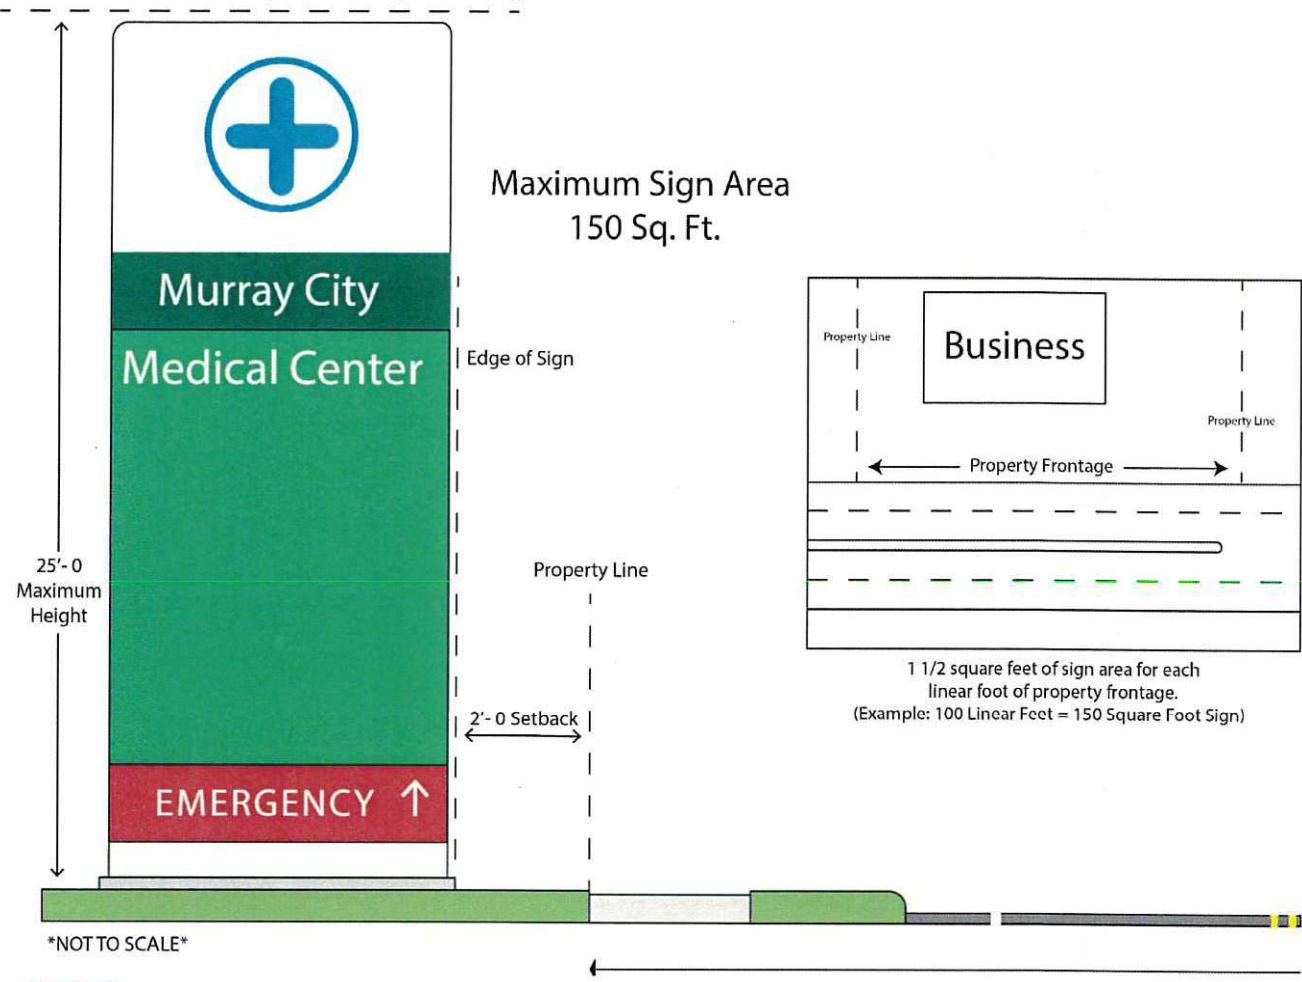

Figure 14
1. **Area Standards.** A pylon sign may not exceed $1 \frac{1}{2}$ square feet of sign area for each linear foot of street frontage, with no sign exceeding a total sign area of 150 square feet per side (a maximum of two sides are allowed). Each sign must be part of an approved sign theme (*See Figure 14*). Reader boards, changeable copy areas, and electronic message centers are not allowed.
2. Height Standards. The maximum height of a pylon sign is twenty-five (25) feet above pavement grade or ground level.